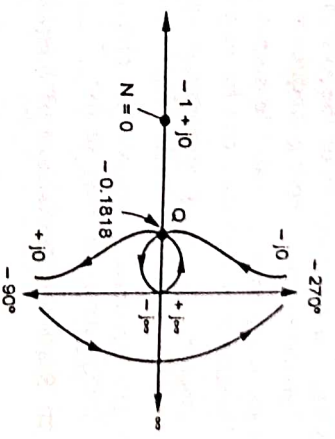

Fig. Q.25.1 (b)
Step 6 : The Nyquist plot is shown in the Fig. Q.25.1 (b).